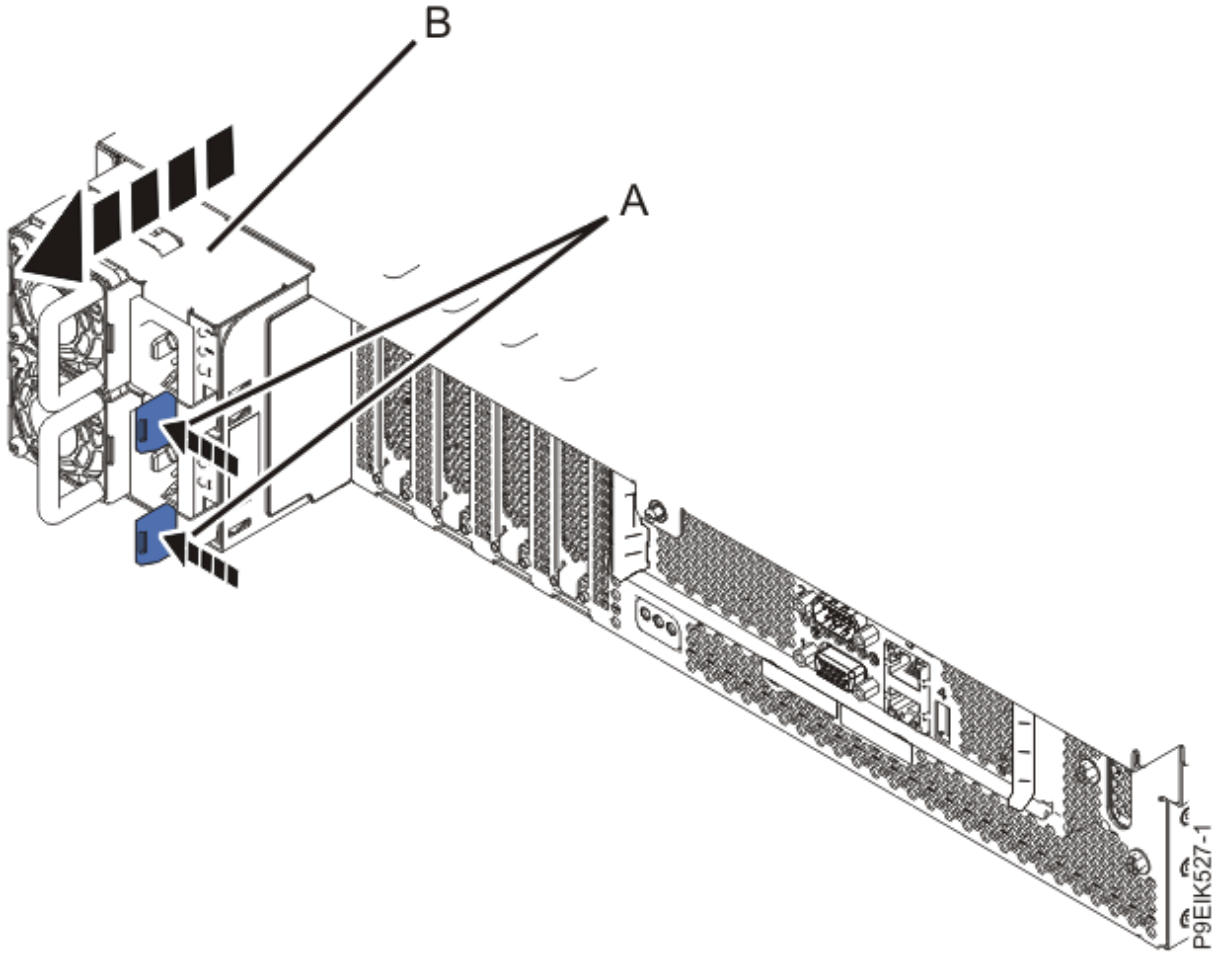

Figure 22. Removing the power supplies from the system
9. Remove the power supplies from the system as shown in Figure 22 on page 32.